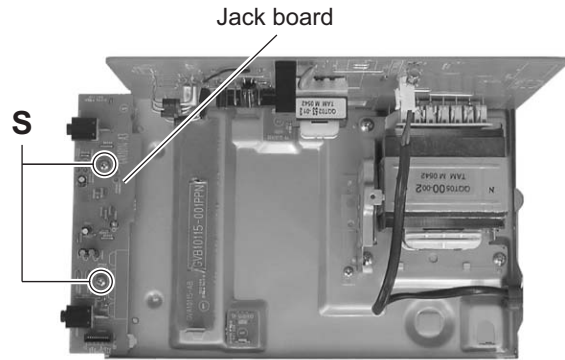

Fig.13
3.1.11 Removing the jack board (See Fig.13)
- (5) Remove the feed gear and take out the feed motor. (See Fig.13)
When attaching the feed motor, the wire has to through the part **t** of the traverse mechanism assembly. (See Fig.13)